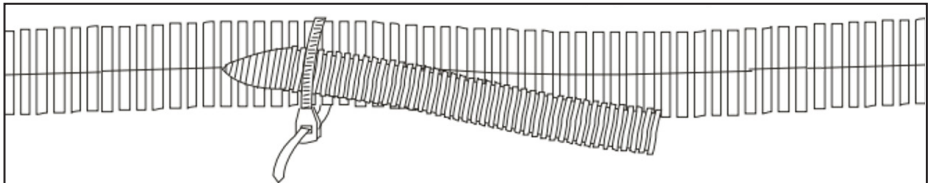

Figure 69 — Loom wire
- Use 1/4 in wire loom or equivalent protection to cover the wires, and secure the VMAC tachometer cable to OEM harness with a cable tie (Figure 69).